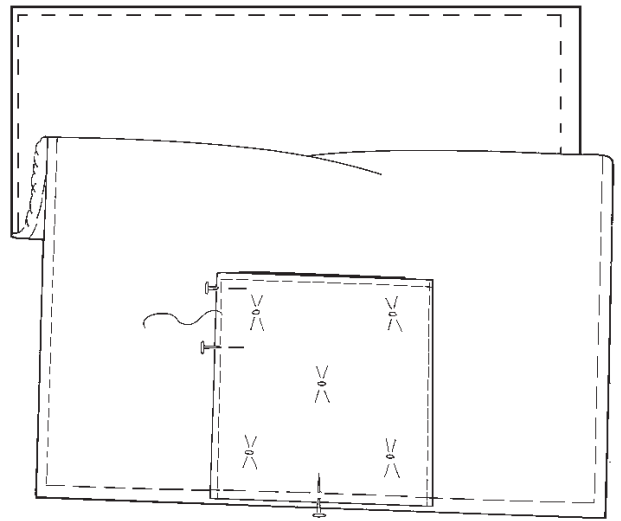

Fig. 17-3
6. Fold the quilt back and the pocket in half lengthwise to find the center. Mark the center fold on the bottom of the pocket and one end of the quilt back, using a pin or a washable marker. With the tufted side of the pocket up (the side on which the tufts are tied), pin the pocket to the right side of the quilt back, matching the centers. Topstitch the pocket side edges in place $\frac{1}{4}$ inch (6 mm) from the finished side edges of the pocket. Baste the lower pocket and quilt back edges together. (Fig. 17-3)